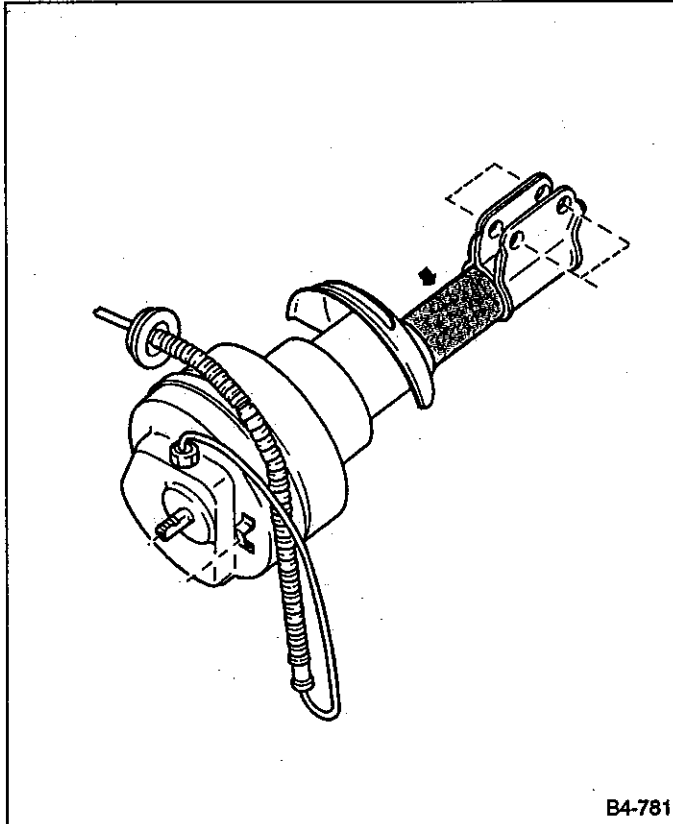

Fig. 110
4) Before disposing of strut ASSY, drill a 2 to 3 mm (0.08 to 0.12 in) hole on portion (shown by arrow in Figure 110) to completely discharge filled gas.